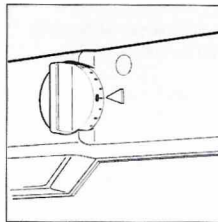

Fig. 3
Proceed as follows: turn the thermostat knob (A) to the setting ● (Fig.3). Then wrap all the frozen and fast-frozen food in newspaper, placing it either in the refrigerator or in a cool place. Leave the freezer door open so that the frost thaws completely. You can speed this process by placing containers of warm water in the compartment.